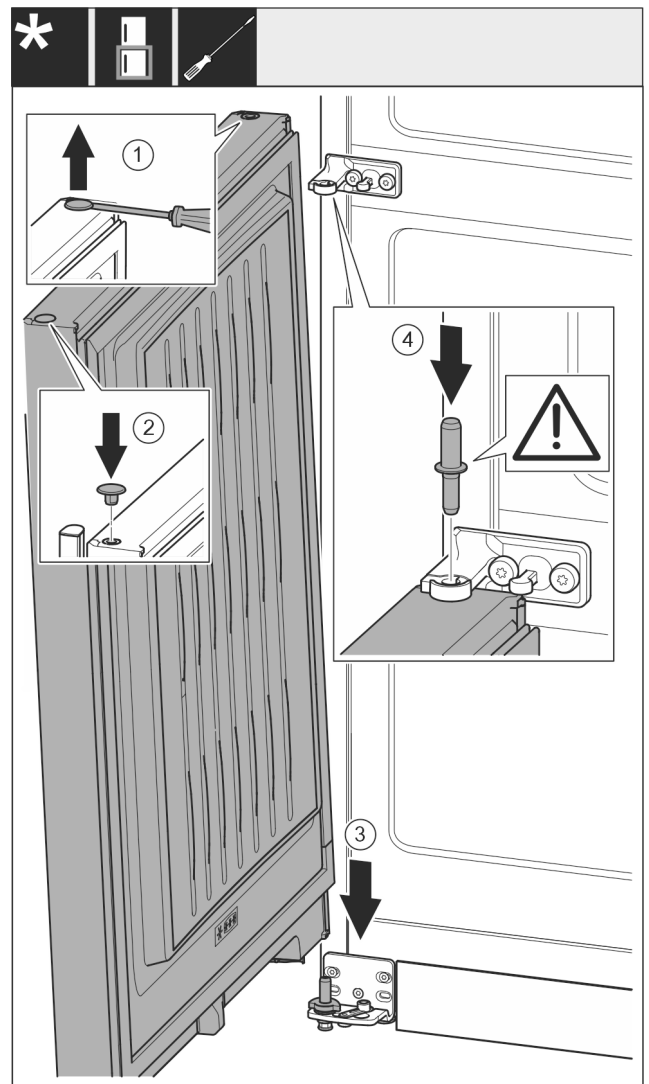

Fig. 54
- Use a slotted screwdriver to lift the plug Fig. 54 (1) carefully and pull it out.
- Re-insert the plug Fig. 54 (2) on the other door side.
- Lower the door Fig. 54 (3) onto the bottom bearing bolt.
- Insert the centre bearing bolt Fig. 54 (4) through the centre bearing block in the lower door. Ensure that the latching cam is pointing towards the rear.